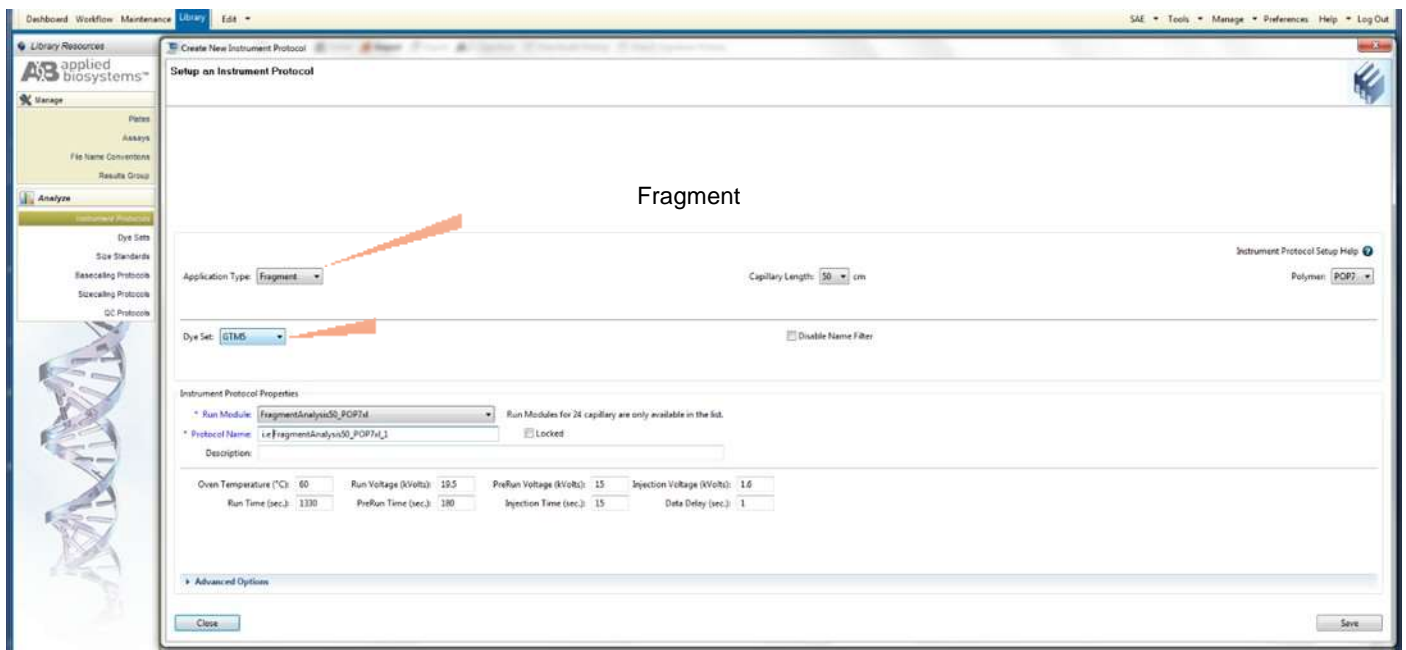

Figure 4. Screenshot for the “Create New Instrument Protocol” window on Applied Biosystems® 3500 Data Collection software
- The Dashboard screen (Figure 4) is launched when 3500 Data Collection Software is opened. Click the Refresh button to make sure that all the information on the Dashboard is up-to-date. Make sure that the Maintenance and Consumables notifications are acceptable.
- User can apply settings as shown in the Figure 4. Make sure that you select GTM5 v2 as a *Dye Set* (same name as was used to perform the GTM5 v2 spectral calibration).
- c) Select “Create” (Figure 4)